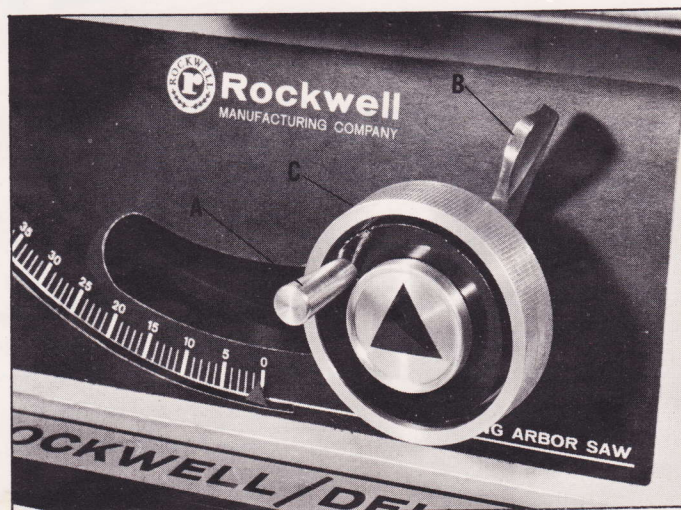

Fig. 3
To raise or lower the saw blade, turn the raising handwheel (A) Fig. 3. With the exception of hollow ground blades, the blade should be raised $1/8''$ to $1/4''$ above the top surface of the material being cut. With hollow ground blades the blade should be raised to the maximum to provide greater clearance.
To tilt the saw blade for bevel cutting, loosen the lock handle (B) Fig. 3, by moving it to the left, and turn the blade tilting handwheel (C). When the desired angle is obtained, tighten lock handle (B) Fig. 3.